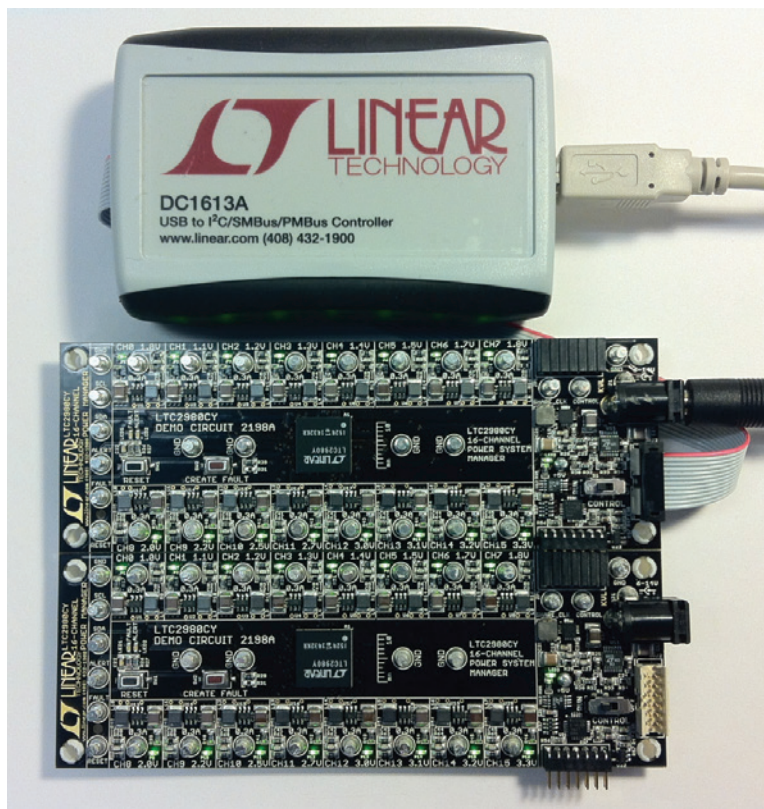

Figure 12. Array of Multiple DC2198A Demo Boards
3. Plug in the +12V_{IN} power into one of the boards as shown in Figure 12. Only one +12V power source is allowed.